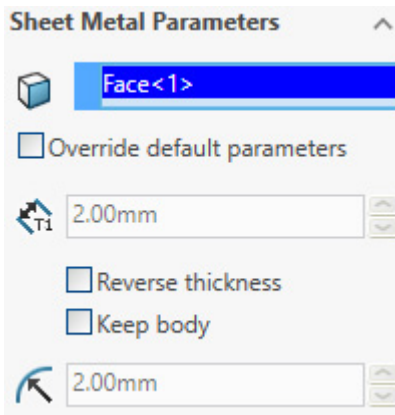

Figure 12.14: The Sheet Metal Parameters
2. We can now see two options under the Sheet Metal Parameters – **Reverse thickness** and **Keep body** (Figure 12.14).
2. Select the **Keep body** option (Figure 12.14).